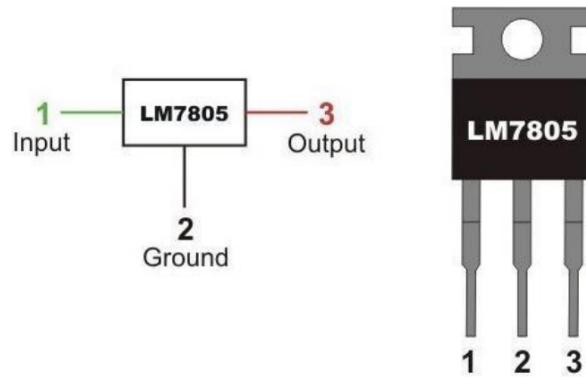

Figure 2: LM7805 voltage regulator
4. Replace the Zener circuit with the SPICE model for an IC7805 regulator (Figure 2.). Repeat the test from step 2 & 3. Compare the load regulation (change in output voltage vs. load) and line regulation (change in output voltage vs. input) of the two circuits.